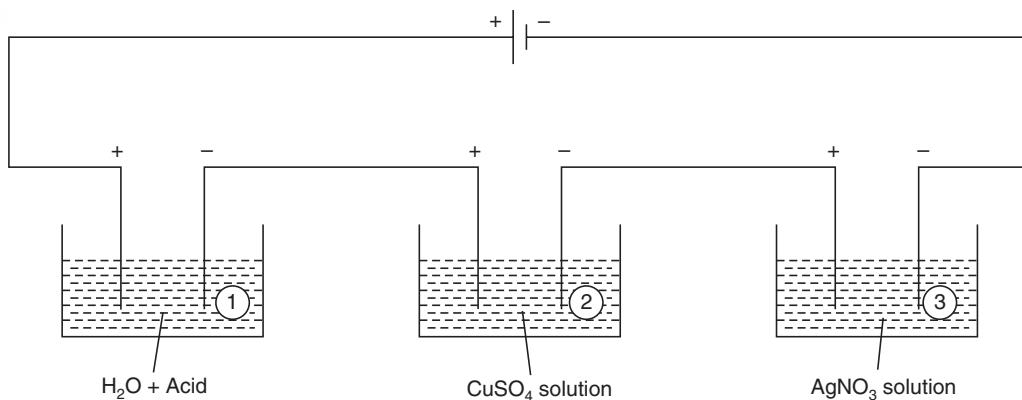

Fig. 9.2 Different voltameters containing different electrolytes.
That is to say, when 1 g of H_2 is liberated in cell (1), $63.5/2$ g Cu will be liberated in cell (2) and 108 g Ag will be liberated in cell (3) (Fig. 9.2).